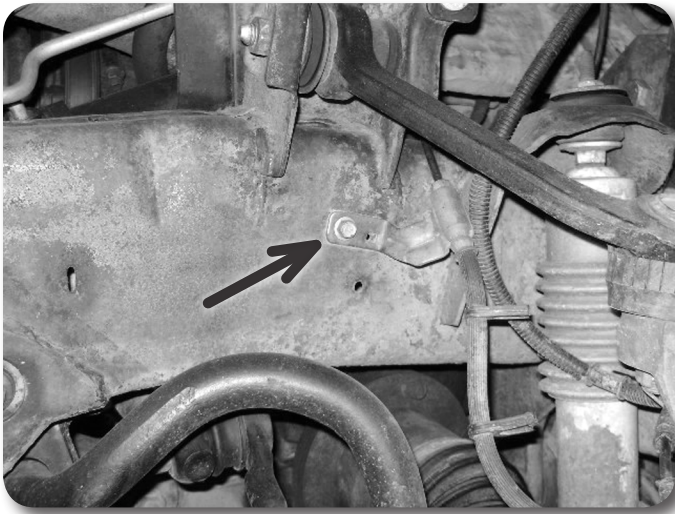

Figure 5
15. Remove the front brake line bracket from the steering knuckle and frame **Figure 5**. Save hardware.